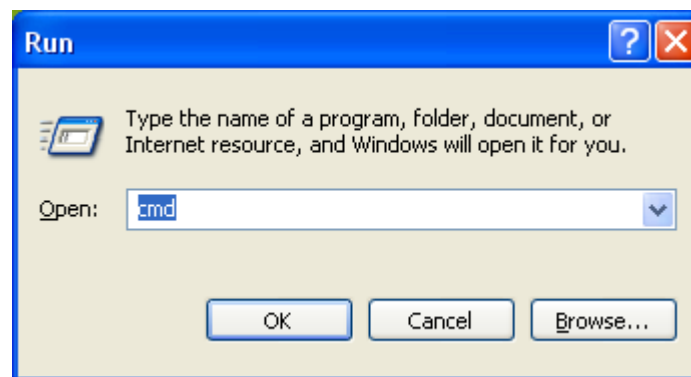

Figure 6-3: Run Window
3. On your PC, open a Command Prompt window. This can be accomplished by using the run command under the start button, type "cmd"; see Figure 6-3: